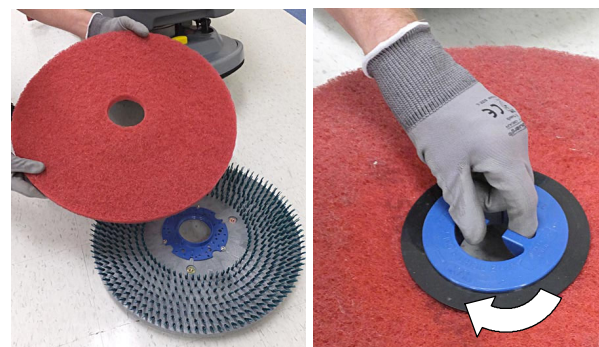

FIG. 9
2. Attach the pad to the pad driver before installing the disk (Figure 9). Secure pad with centerlock.